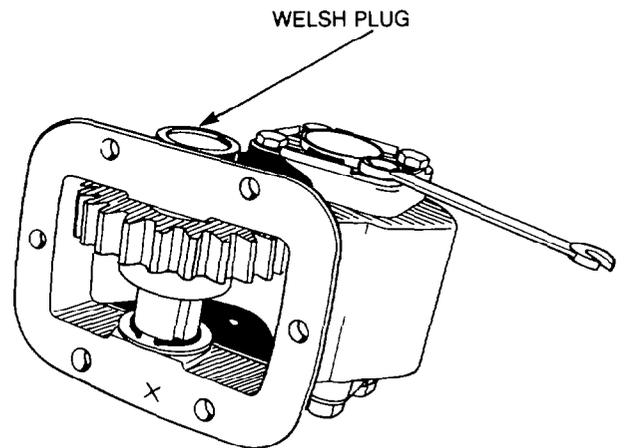

Figure 190 — Removing Bearing Cover Plate
- h. Remove the four bolts securing the drive shaft bearing cover plate to the housing and remove the cover plate and gasket (see Fig. 190).